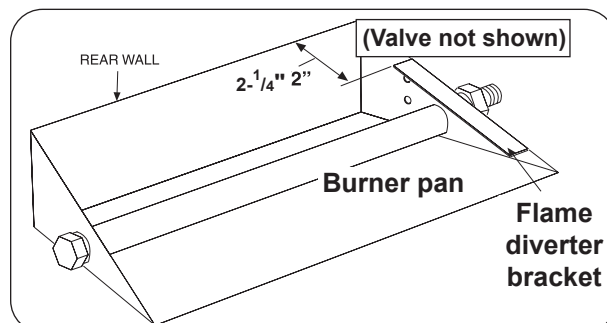

Fig. 5-4 Install diverter bracket (if applicable)
1. Place the flame diverter bracket over the side edge of the burner pan, near the location the safety control system pilot bracket will be attached. It should be placed **approximately 2-1/4"** from the rear wall of the burner pan (see Fig. 5-4).